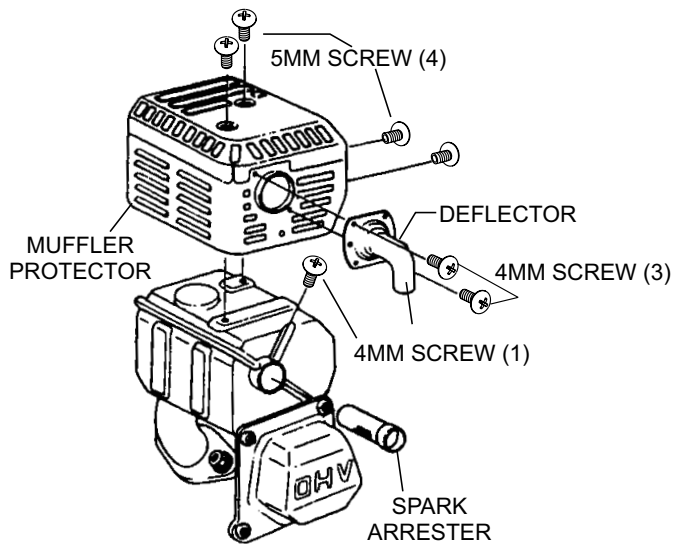

Figure 27. Spark Arrester Removal
1. Remove the 4 mm screw (3) from the exhaust deflector, then remove the deflector. See (Figure 27).
2. Remove the 5 mm screw (4) from the muffler protector, then remove the muffler protector.